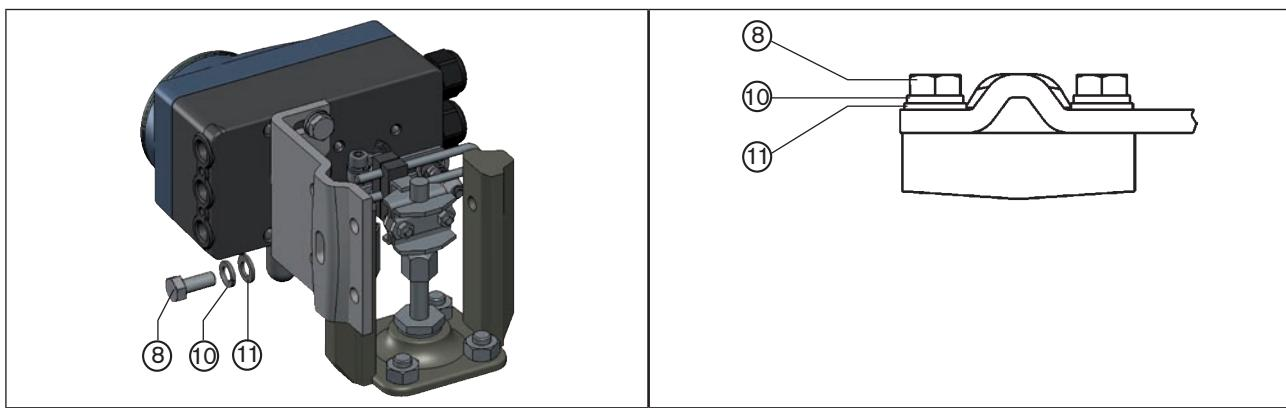

Figure 25: Attach positioner with mounting bracket; for actuators with cast frame
→ Attach mounting bracket to the cast frame with one or more hexagon bolts ⑧, washers ⑪ and circlips ⑩ (see "Figure 25").